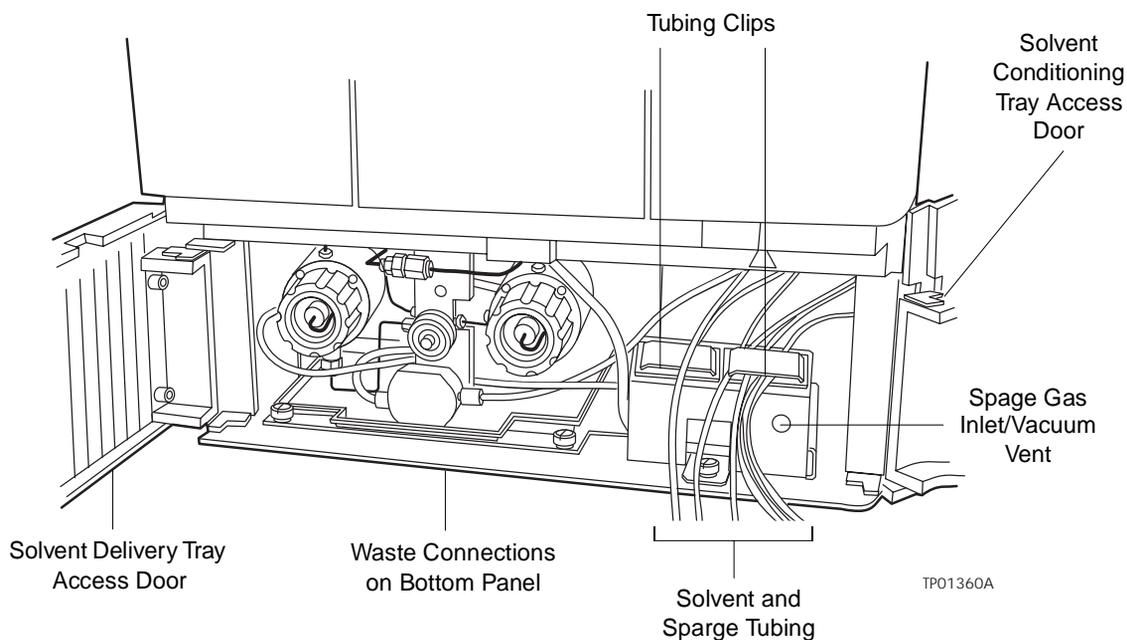

Figure 2-5 Fluidic Connections in the Separations Module
Figure 2-5 shows the locations of the solvent and spurge tubing, the connections for spurge gas, and the waste connections.
1. Uncoil the spurge and solvent lines stored behind the solvent conditioning tray access door, as shown in Figure 2-5.
The tubing from the Separations Module to the solvent reservoirs is stored behind the solvent conditioning tray access door on the front panel (Figure 2-5). One end of the solvent tubing is connected (at the factory) to either the:
The spill tray waste outlet is located under the front panel of the Separations Module, below the solvent conditioning tray access door (Figure 2-5).
The tubing for the needle wash and plunger seal wash reservoirs is located behind the solvent conditioning tray access door on the front panel (Figure 2-5). Each wash line is marked with a label and/or is color-coded. Table 2-7 lists the color code and size of each line. The plunger seal wash inlet line is labeled “Pump Wash In,” and has a diffuser attached to one end.